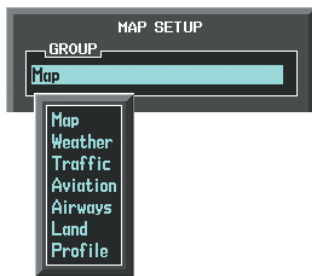

Figure 6-160 Navigation Map Page Setup Menu
- 4) Turn the small **FMS** Knob to select the 'Traffic' Group and press the **ENT** Key (Figure 6-160).